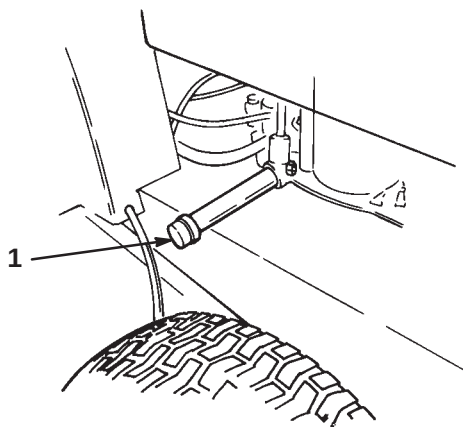

Figure 11
3. Place drain pan below drain plug (Fig. 11). Remove drain cap. Allow all oil to flow into drain pan. Reinstall drain cap after oil stops flowing.